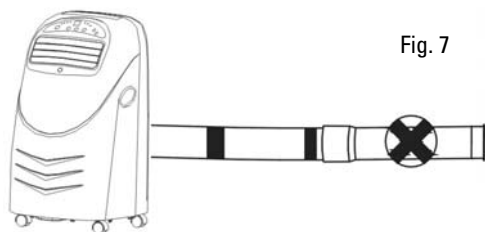

Fig. 7
- Exhaust pipe can be as 1m50 long. The shorter it is, the more powerful your unit will be. Do not use additional exhaust pipe. (Fig. 7)